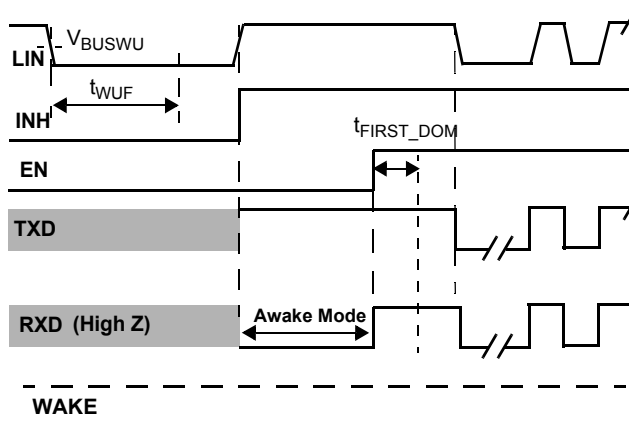
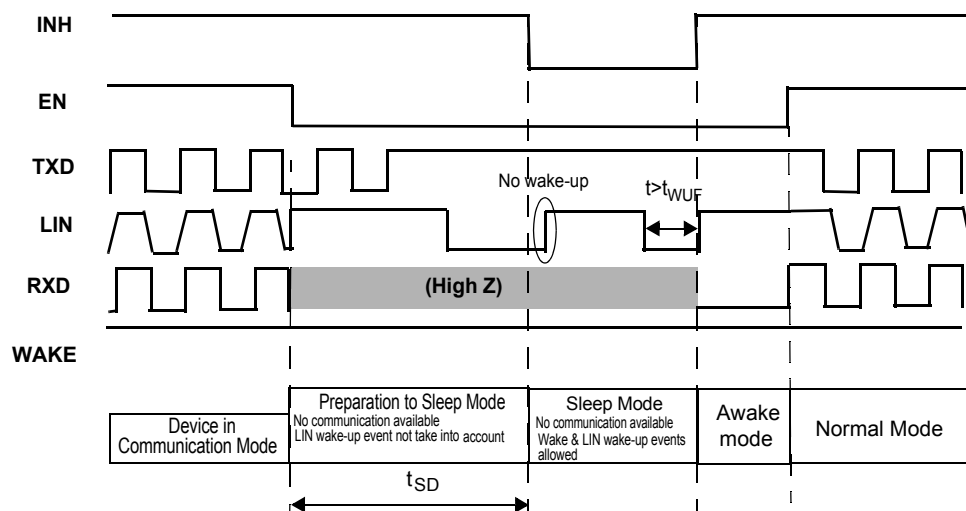

Figure 16. LIN Bus Wake-up with TXD High
Figure 20. LIN Bus Wake-up with LIN bus in Dominant During the Preparation to Sleep Mode
25. See Figure 16, 19, and Figure 20
transition. This is illustrated in Figure 16 and 19. Once the wake-up is detected (during the dominant to recessive transition), the device enters into Awake mode, with INH HIGH and RXD pulled LOW.